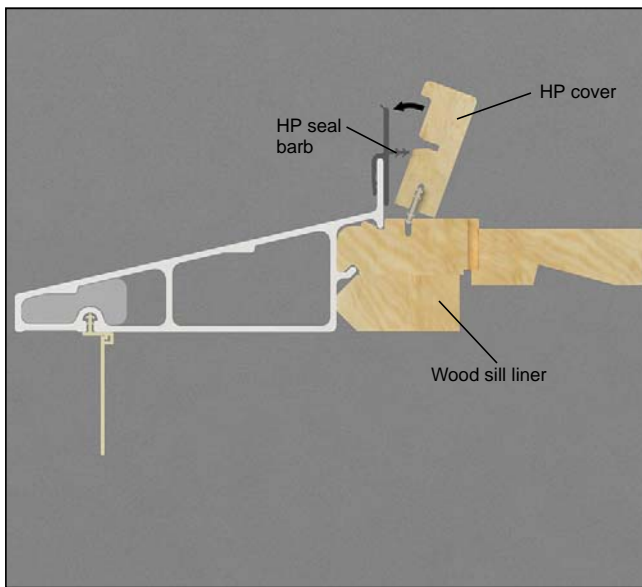

Figure 6
7. Press the HP cover into the kerf on the wood sill liner and roll the HP cover so that the HP seal barbs insert into the HP cover kerf. See figure 6.